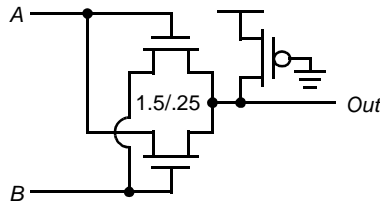

Figure 6.10 Pass-gate network.
15. [M, None, 4.2] Figure 6.10 contains a pass-gate logic network.